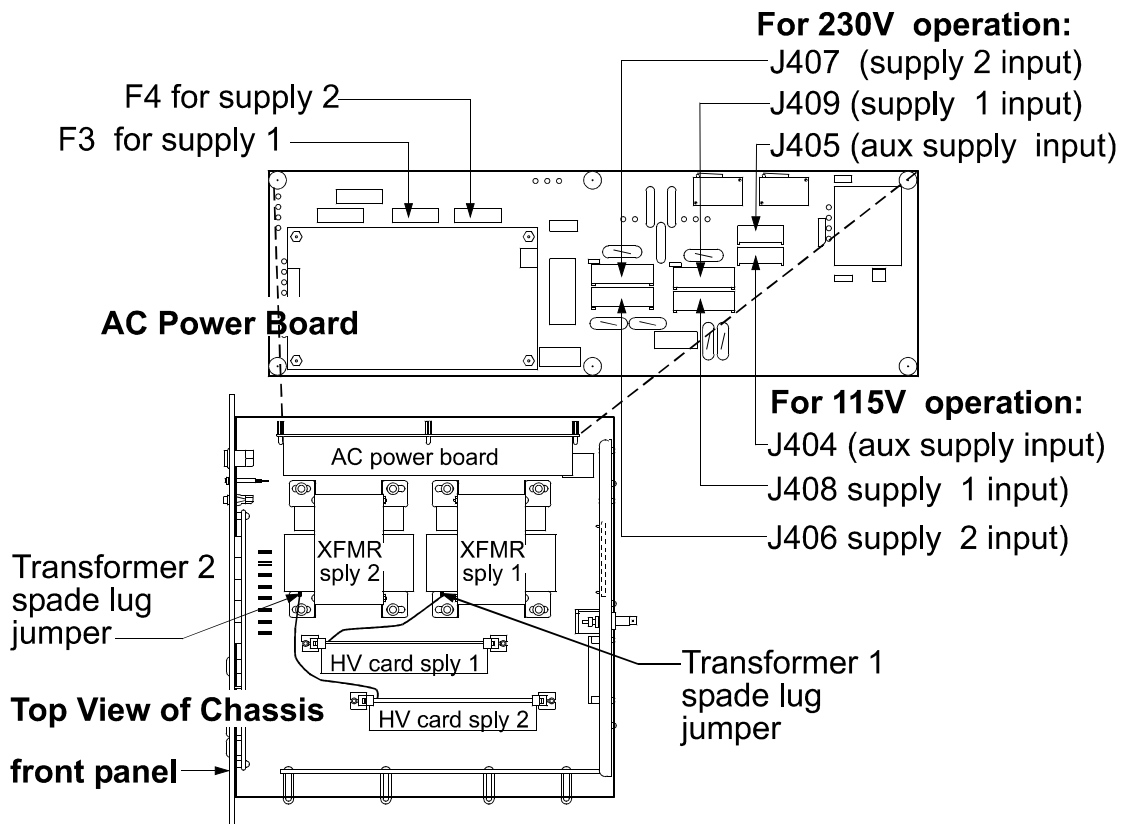

Figure 4-3. Input and Output Voltage Conversion — Location of Components.
2. On the AC Power board (Figure 4-3), remove the cover from the two fuses (F3 for supply 1 and F4 for supply 2) and replace the fuses according to the table below.
4. On the AC Power board (Figure 4-3), pull out the input voltage connectors and reconnect them to appropriate voltage according to the table below.
2. Move the spade lug jumper (Figure 4-3) located on the secondary tap of the high voltage transformer to appropriate connection.